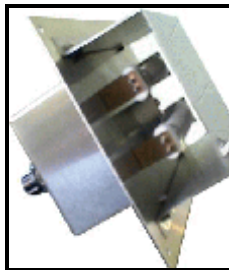

Figure 1
2. Locate and remove the phillips screws that hold the generator guard in place, next carefully remove corona tubes by pushing them to one end and lifting them up. (Similar to removing some flourescent lights) (FIG. 1 & 2)